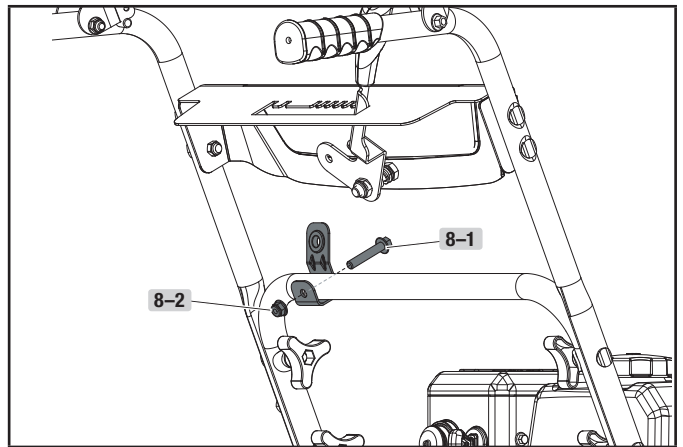

Figure 8
3. Discharge chute bracket should be placed forward as shown (for correct placement). Do not overtighten. Connect discharge chute guide to lower handle with 1 bolt (8-1), and 1 lock nut (8-2) (Fig. 8).